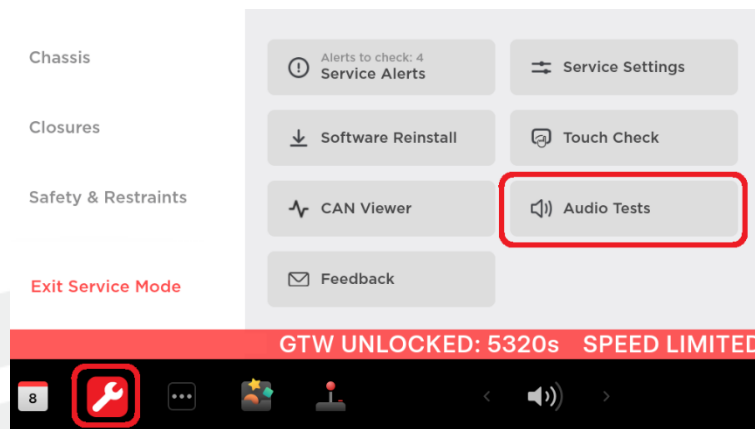

Figure 1
3. In Service Mode, touch **Controls** > **Audio Tests** (Figure 1).